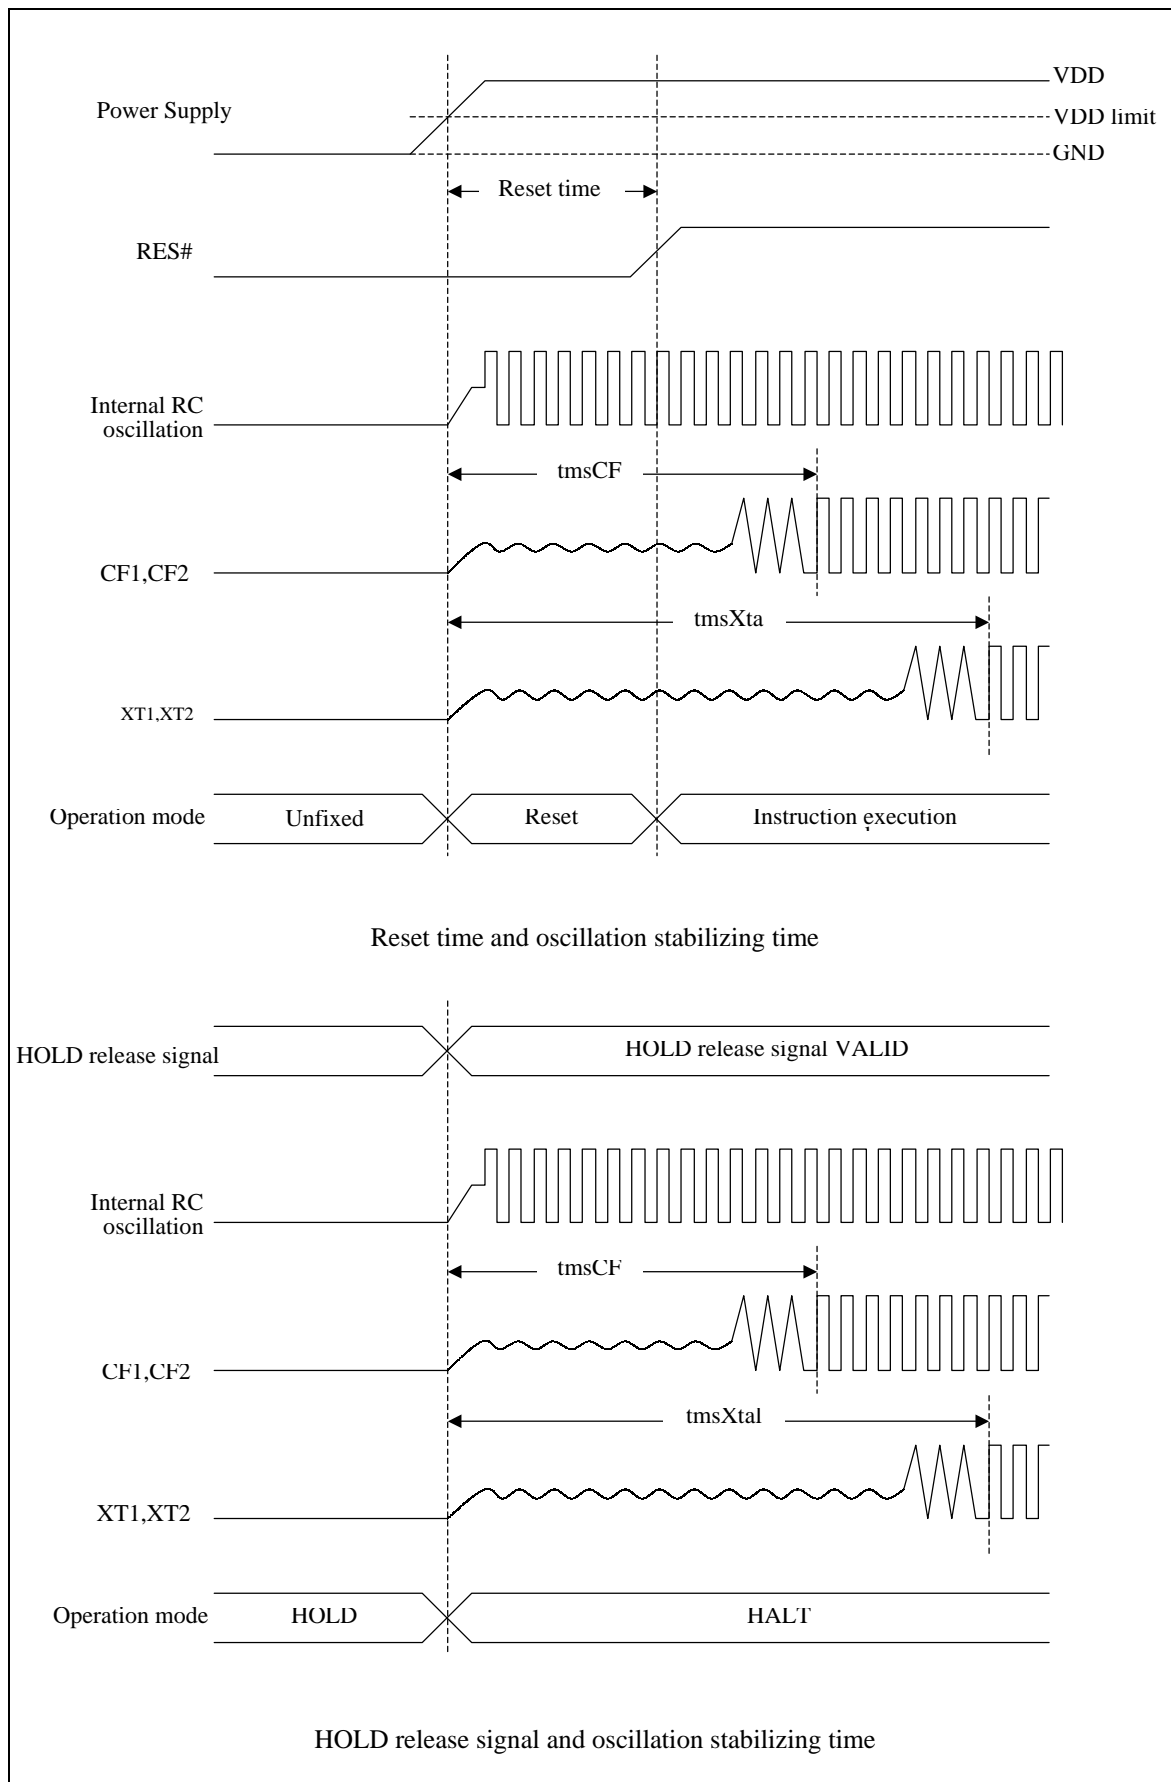

Figure 4 Oscillation stabilizing time
*The oscillation stabilizing time is a period until the oscillation becomes stable after VDD becomes higher than minimum operating voltage. (Refer to Figure4)
*The oscillation stabilizing time is the period until the oscillation becomes stable, after executing the instruction which starts the sub-clock oscillator or after releasing a HOLD mode. (Refer to Figure4)